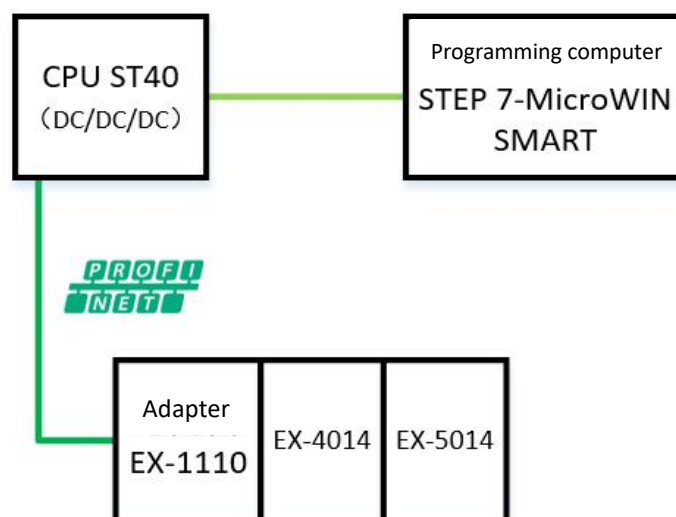

Figure 5-2-12 Communication connection diagram
1. Communication connection diagram, as shown in Figure 5-2-12.